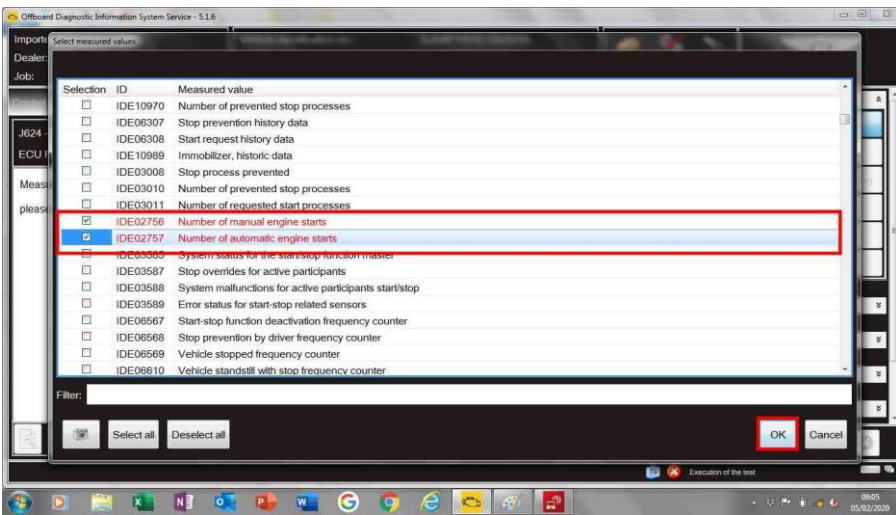

Figure 4
- Select “IDE02756” and “IDE02757” and then “OK” – Figure 4.